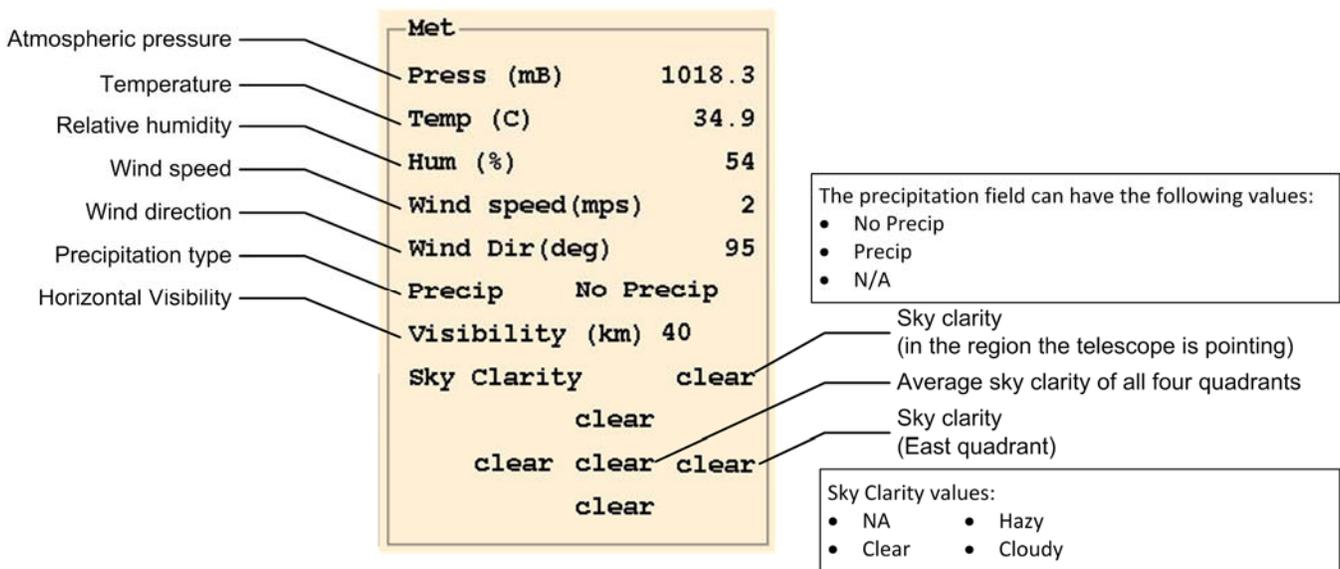

Figure 6-1: Labeled diagram of a portion of the Ratgui main window showing weather information
5. **Verify Weather Measurements** – Ensure that the meteorological data displayed accurately reflects current weather conditions outside the shelter (Figure 6-1). Note that if the values for *Sky Clarity* are *NA*, then most likely the Sky Camera software on the Camera computer is not running.